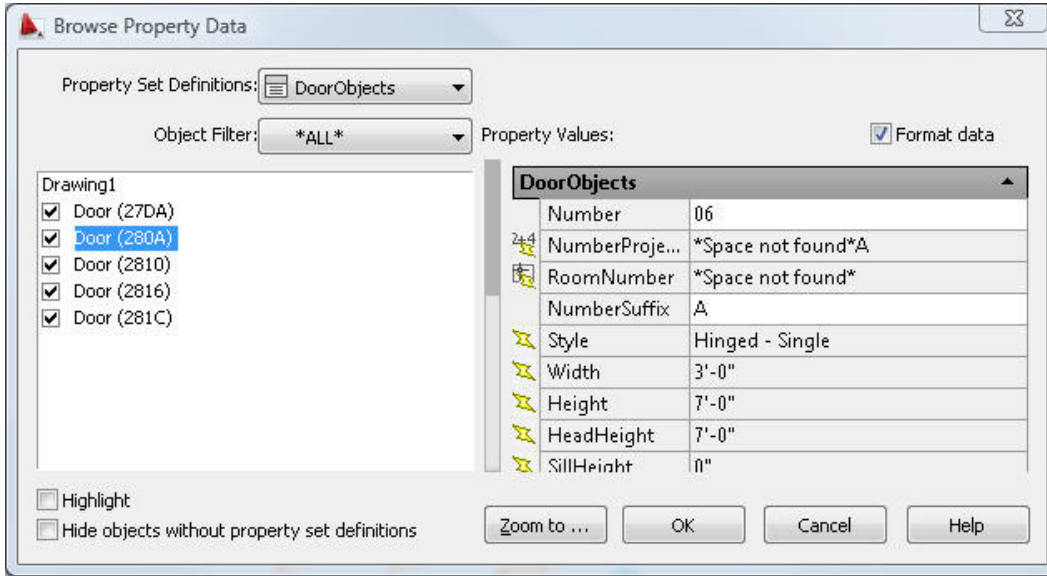

Figure 7. The Browse Property Data dialog box.
- On the “Documentation” tool palette, the “Browse Property Data” tool will allow you to see all of the object-based property sets in use in your drawing, as well as edit the data. Note in Figure 7 there is also an option to highlight the objects in the drawing editor when they are selected in the property data browser window.